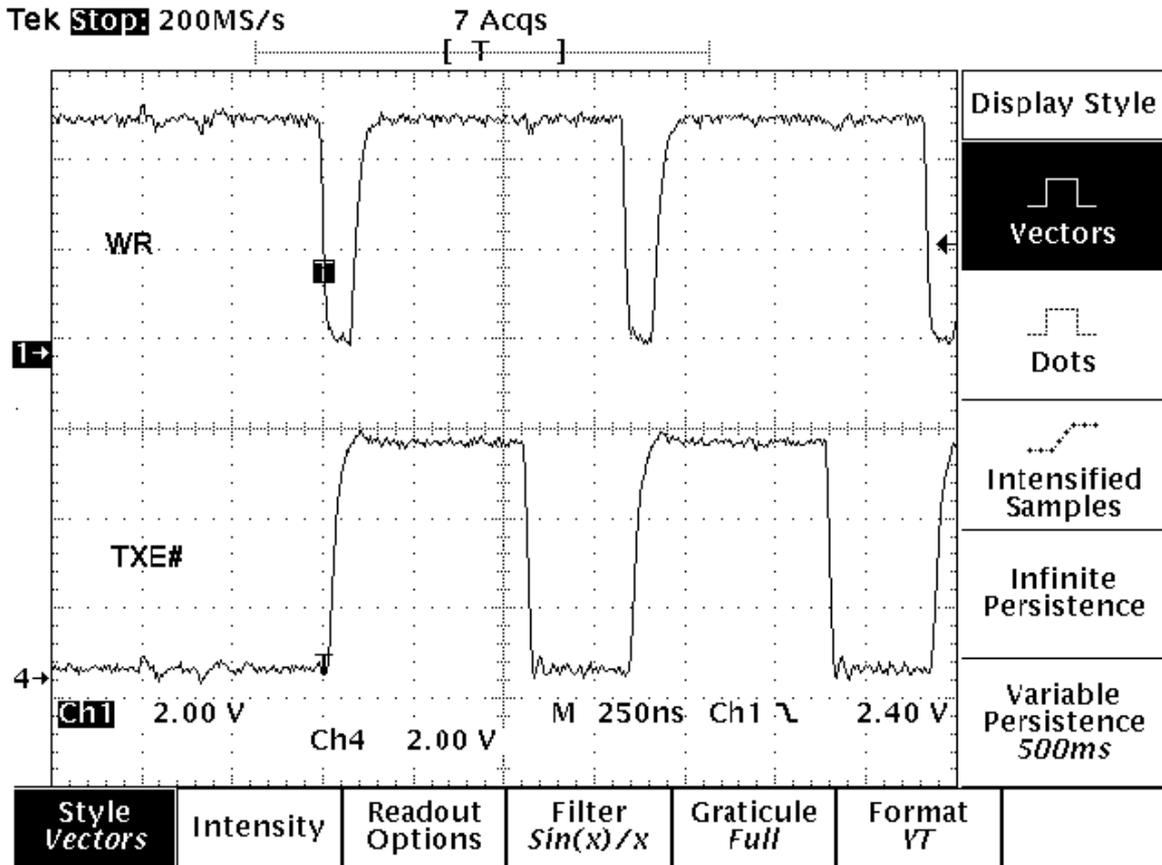

Figure 7. WR and TXE# while writing data.
**TXDEN** - This pin will go high whenever the device transmits a character. It is used for systems where multiple devices can be driving a cable. Its purpose is to control the output enable of a RS485 level converter. It is turned off at the same time as the last STOP bit is sent. See Figure 7 for an oscilloscope trace showing the output of TXDEN.
The oscilloscope trace in Figure 7 shows a typical burst of data to the device. The data is latched on the negative edge of WR. The TXE# signal must be monitored before the next byte can be written.